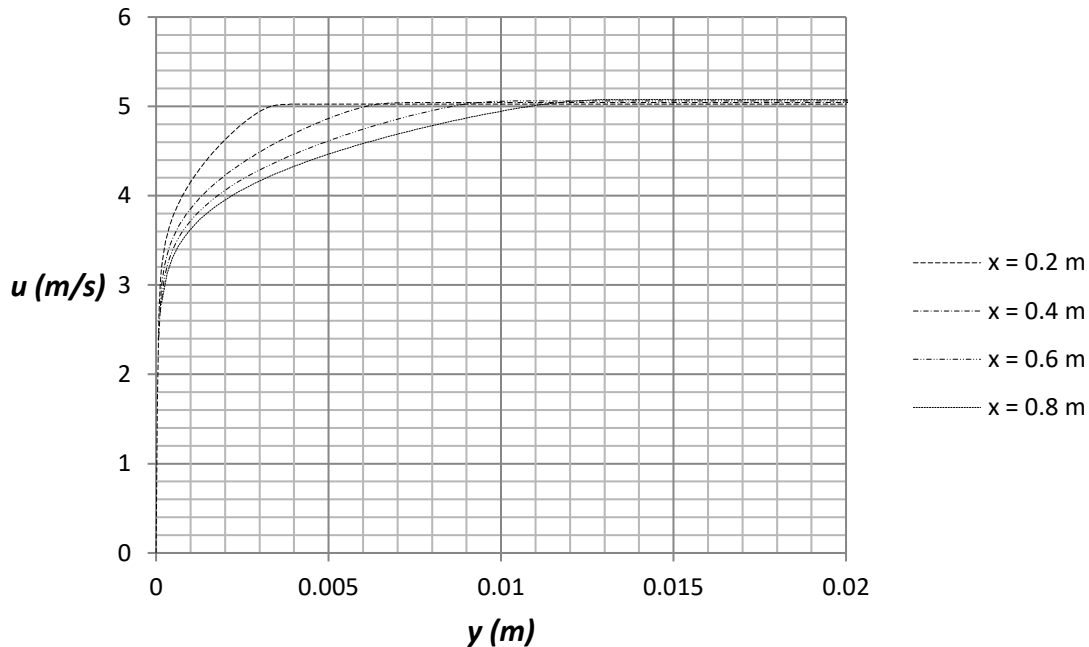

Figure 2.30a) Comparison of turbulent boundary layers at $Re_x = 10^6 - 4.04 \cdot 10^6$
30. Place the file “**graph 2.30a)**” on the desktop. Repeat step **24** and choose the sketch **x = 0.2, 0.4, 0.6, 0.8 m** and check the box for **Velocity (X)**. Rename the xy-plot to **Turbulent Velocity Boundary Layer**. An Excel file will open with a graph of the streamwise velocity component versus the wall normal coordinate, see figure 2.30a). We see that the boundary layer thickness is much higher than the corresponding laminar flow case. This is related to higher Reynolds number at the same streamwise positions as in the laminar case. The higher Reynolds numbers are due to the selection of water as the fluid instead of air that has a much higher value of kinematic viscosity than water.
As an example, the turbulent boundary layer thickness from figure 2.30a) is 3.16 mm at $x = 0.2$ m which can be compared with a value of 4.45 mm from equation (2.4), see table 2.2.
- 2.6 Determine the displacement thickness, momentum thickness and shape factor for the turbulent boundary layers in figure 2.30a) and determine the percent differences as compared with empirical data.